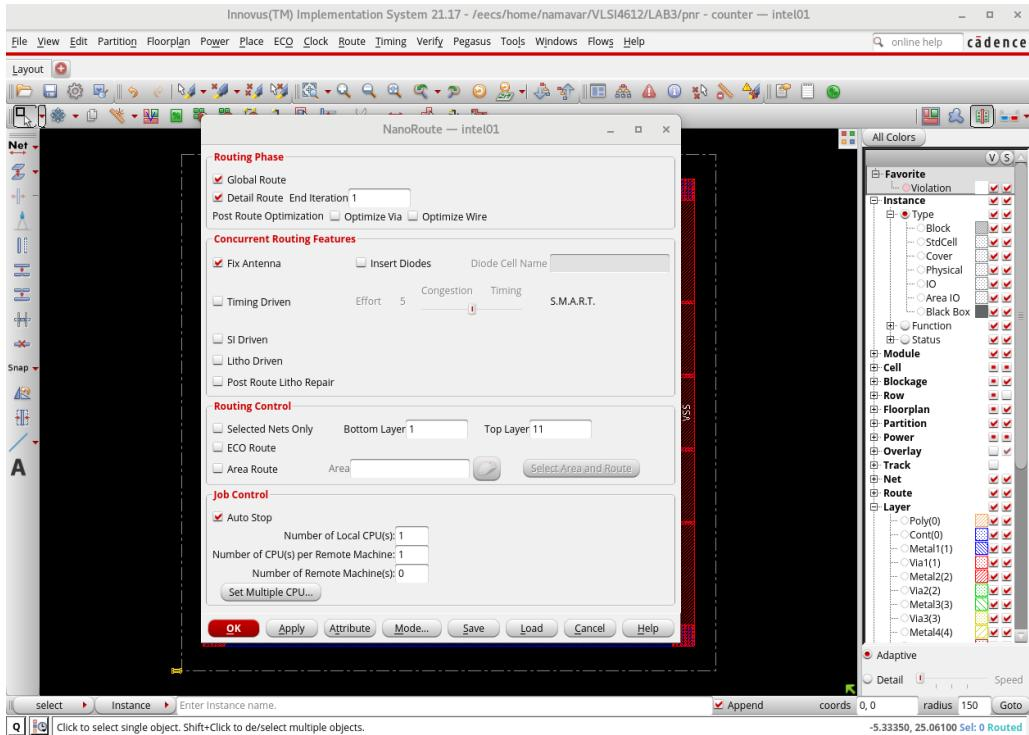

Figure 20: NanoRoute window for performing final routing.
2. The **NanoRoute** window will appear, as shown in Figure 20.